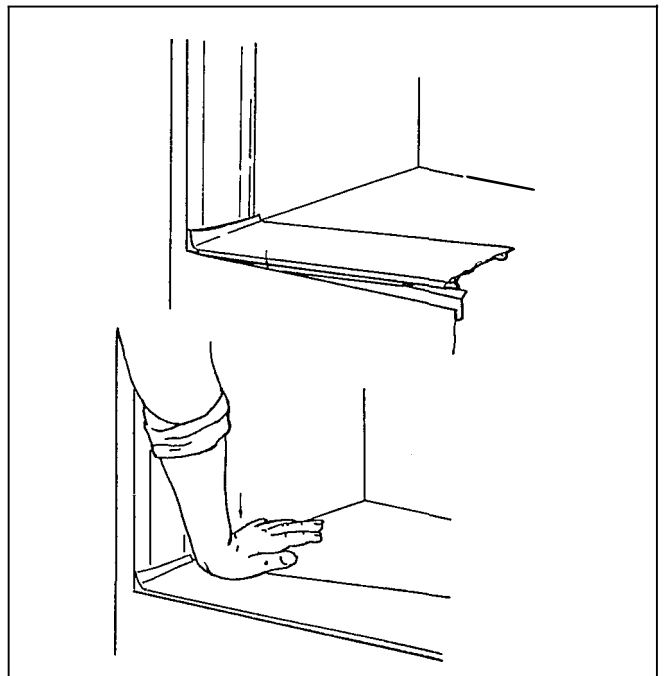

Figure B2 - Installing Breaker Trim
4. Install bottom breaker trim first. Squeeze one end of the trim and press the front flanges into the “U” channel as shown in Figures B2 and B3.
5. Using palm of hand, press on the rear edge of the trim forcing the lock tabs over the flange of the freezer liner. See Figures B2 and B3.